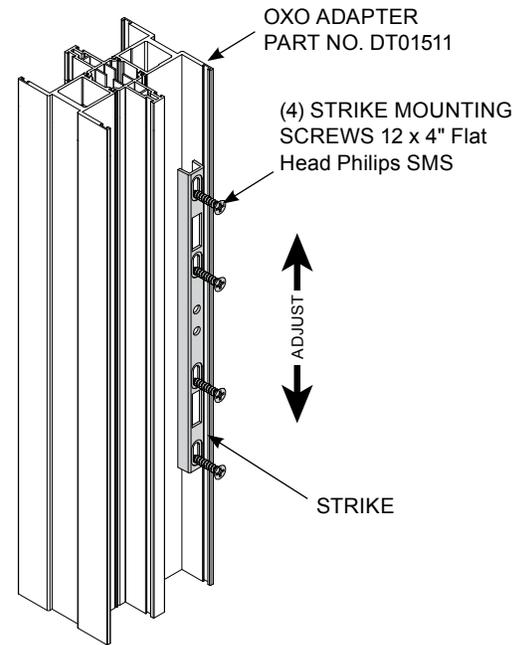

FIG. 52
6. Install strike to the OXO adapter. (FIG. 52)